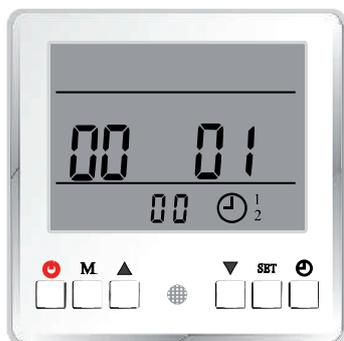

Figure 7-8 - Timer function
- 1.- Press  button (it doesn't matter if the machine is on or off). The display will appear as in Figure 7-8.